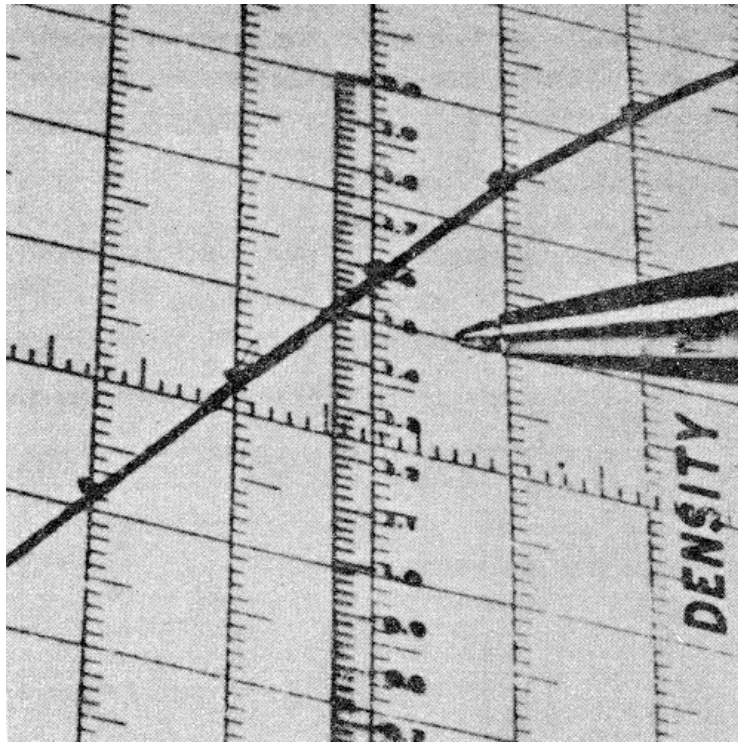

Figure 44.
(4) Read the gamma where the straight-line portion of the characteristic curve intersects the vertical scale of the gammeter (figure 44).